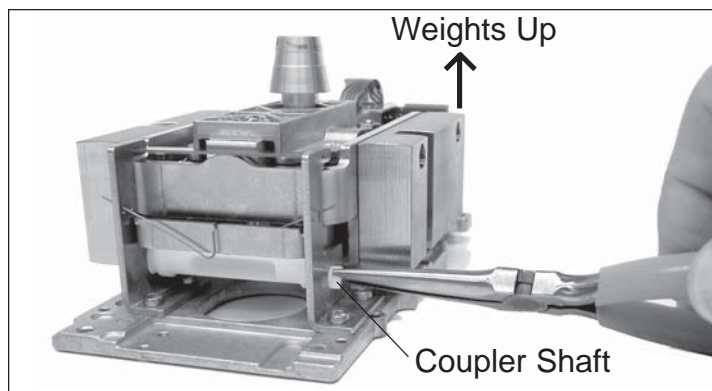

Figure 3-21. Coupler Shaft Rotation.
2. Refer to Figure 3-21 and rotate the shaft clockwise and counter-clockwise to ensure the operation is smooth. If not, replace the entire Load cell.